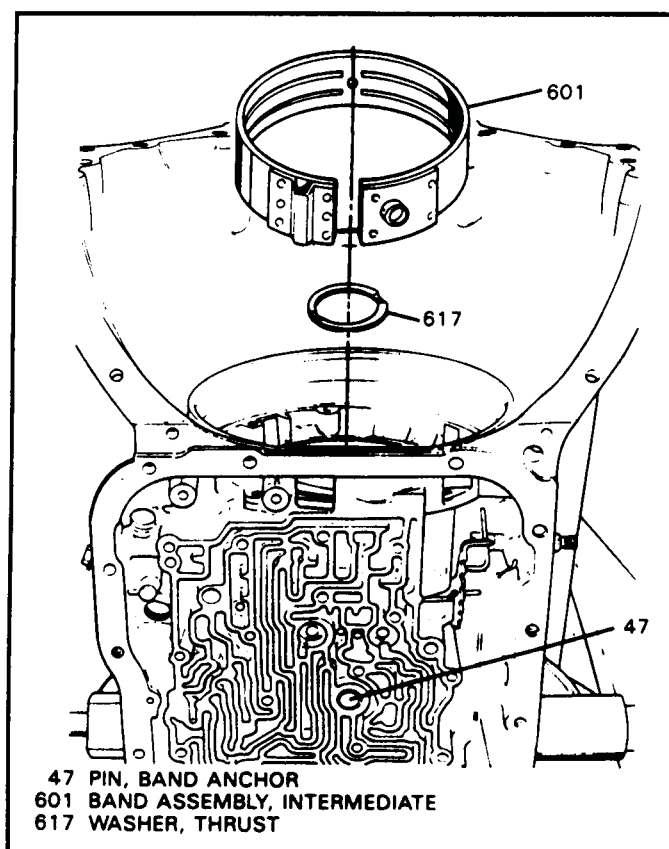

Figure 55
9. Remove the intermediate band assembly, as shown in Figure 55.
10. Remove the intermediate band anchor from the case, as shown in Figure 55.